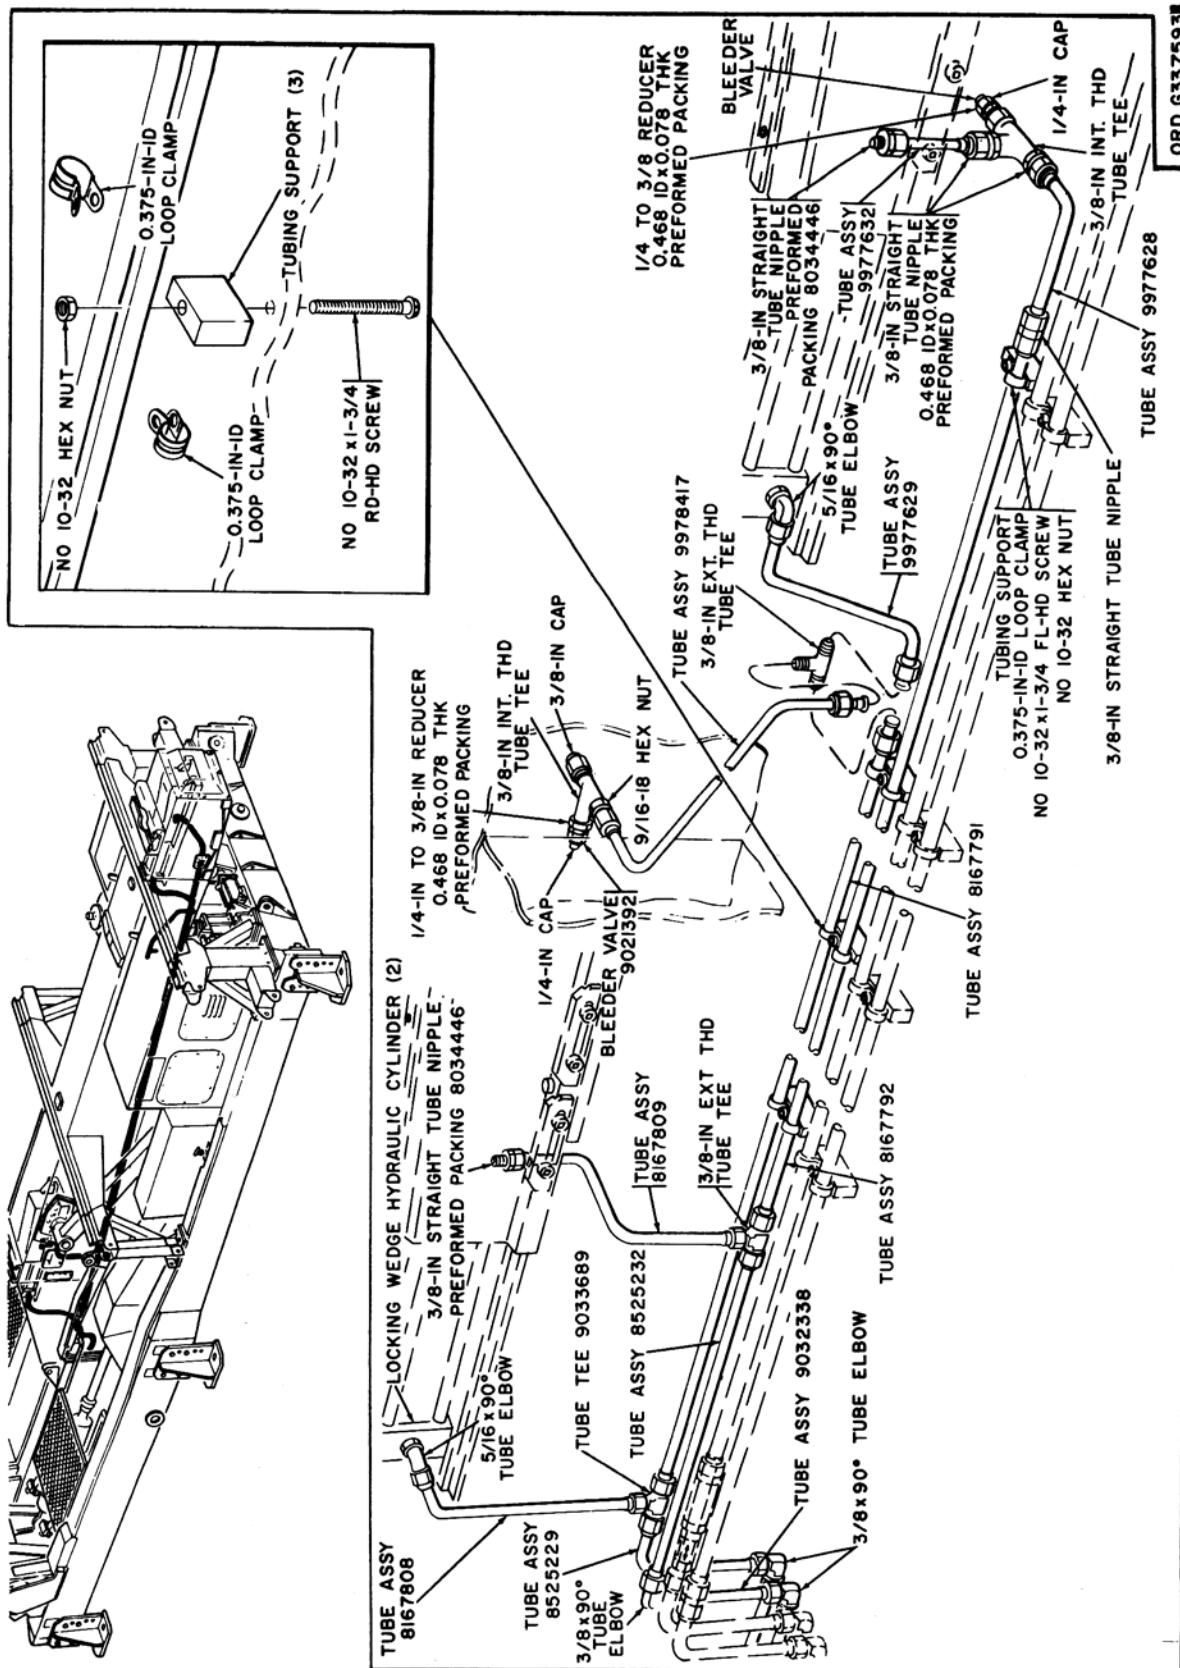

Figure 181. Removal and installation of the locking wedge system hydraulic network.
- (5) Remove the clamps (fig. 181) from the tube assemblies to be replaced.
- (6) Remove the components to be replaced; cap all open lines.
- (1) Install the components as shown in figure 181; torque the coupling nuts to 300 pound-inches.
Note. The locking wedge hydraulic system network must be bled at the two bleeder valves (fig. 181) as described in (3) through (3.6) below.
- (3.1) Remove the cap (fig. 181) from the bleeder valve located under the locking wedge hydraulic cylinder.
- (3.5) Remove the cap (fig. 181) from the bleeder valve located behind the locking wedge hydraulic cylinder.
- (6) Remove the tube elbows and tube assemblies (figs. 181 and 182) to be replaced; cap all open lines.
- (1) Install the tube assemblies and clamps (figs. 181 and 182); torque the coupling nuts to 300 pound-inches.